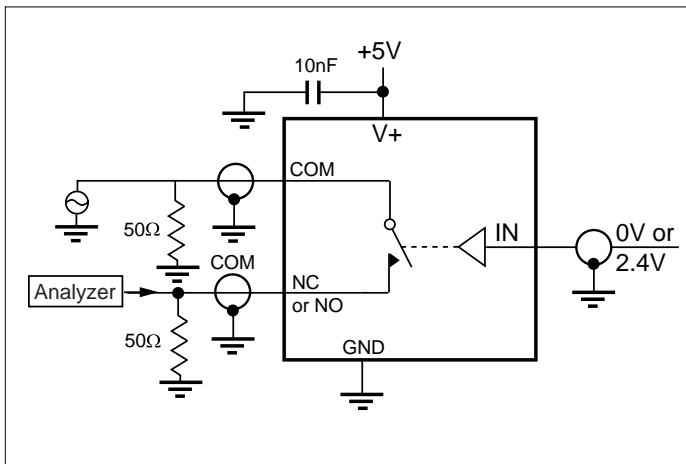

Figure 3. Off Isolation
- Off Isolation =  $20 \log_{10} [V_{COM} / (V_{NO} \text{ or } V_{NC})]$ . See figure 3.